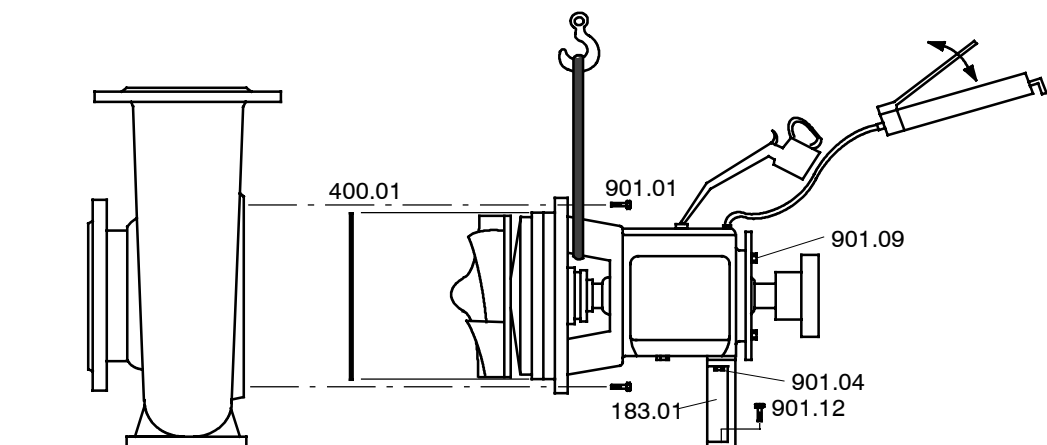

Fig. 21
- 1 Fix the support foot of the bearing unit by means of the hexagonal screws (901.04). Fig 21.